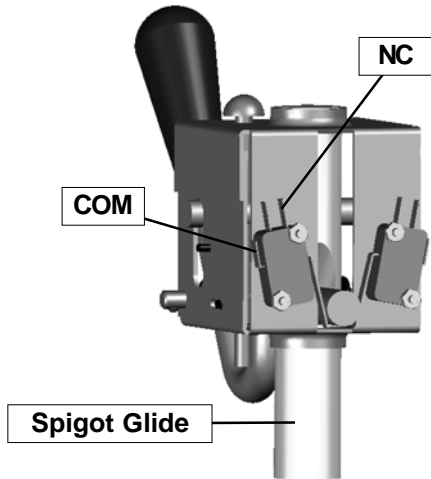

Figure 6-8 Spigot Cam Assembly (Center Spigot)
2. The clicking sound should be within the first 1/2” of the spigot glide movement (Refer to Figure 6-8). If the switch does not close, an adjustment may be necessary.